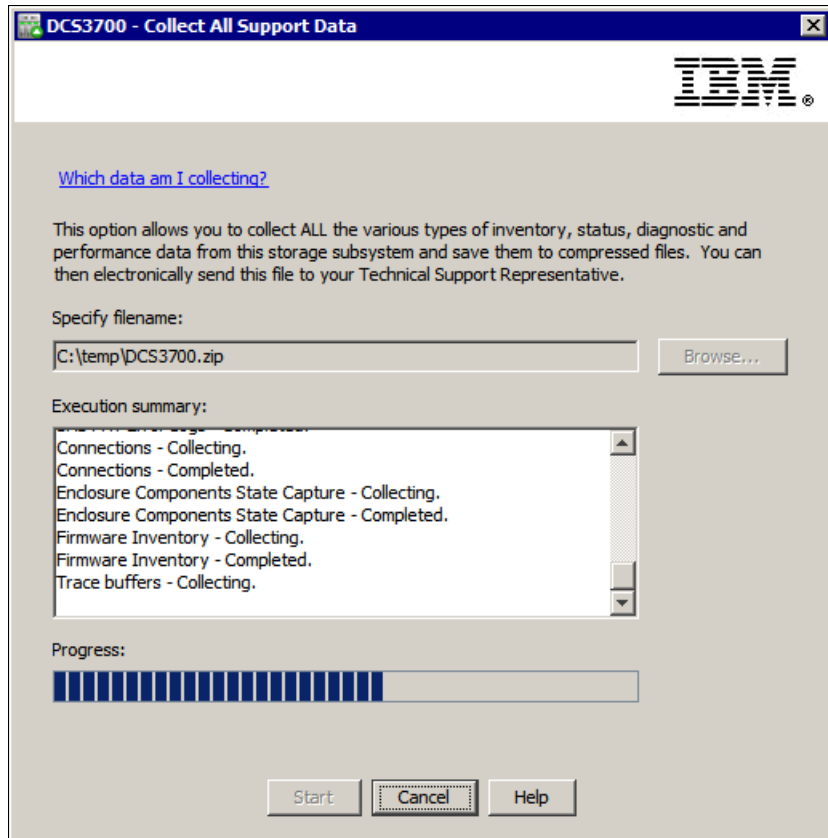

Figure 13-11 Collect All Support Data - data collection in progress
3. The Collect All Support Data window displays a progress bar while the data is being collected, as shown in Figure 13-11.